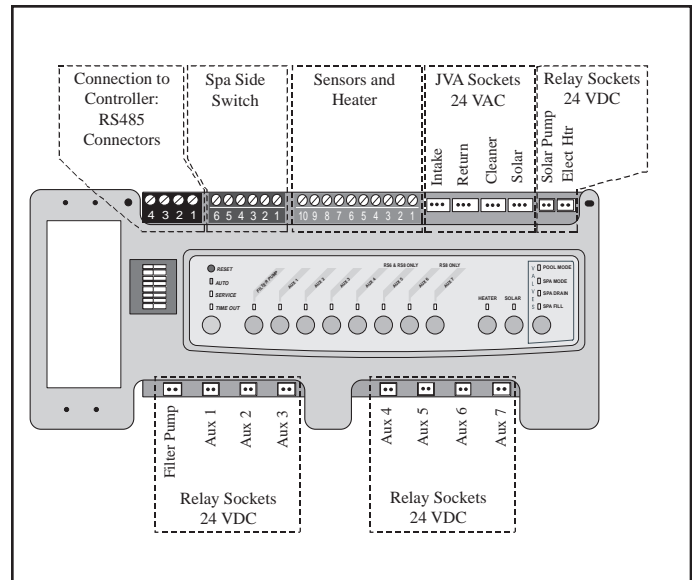
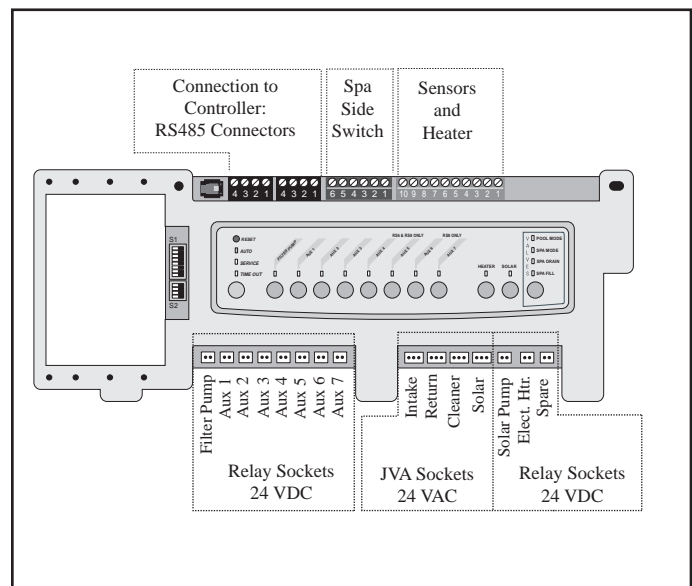

Figure 27. PCB Board with Firmware REV MMM or Lower
Figure 28. PBC Board with Firmware REV N or Higher
To provide “smart” communication between the LXi and an AquaLink RS PCB Board through a red four-pin RS485 connector, your PCB firmware must be Rev N or higher, as shown in Figure 28. To determine the REV of the PCB firmware in your system, refer to Table 7 as well as Figure 27 and Figure 28.
If your PCB firmware is REV MMM or lower, as shown in Figure 27, connect the heater to the control as indicated in *Section 6.5.2*.
If your PCB firmware is REV N or higher, as shown in Figure 28, continue to follow the procedures in this section.
**NOTE** Only an RS System with firmware revision "N", or higher, will support the LXi heater interface. Refer to Table 7, Figure 27 and Figure 28 to determine the REV of your system's firmware. If it is "N" or higher, continue with these procedures. If it is MMM or lower, follow the procedures in *Section 6.5.2*.
4. The wires coming from the LXi heater can be “doubled up” on the red terminal bar with the four (4) wires coming from the indoor controller.
**NOTE** If you need to install more than two (2) wires in each terminal, order a Zodiac Multiplex PCB Kit, which includes the Multiplex Board (Zodiac part # 6584). Never put more than two (2) wires into each of the pins of the terminal bar.